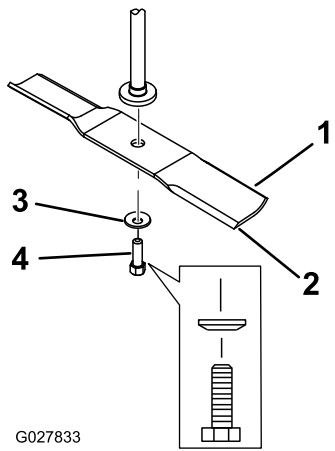

Figure 54
2. Remove the blade bolt, curved washer, and blade from the spindle shaft (Figure 54).
1. Install the blade onto the spindle shaft (Figure 54).
2. Install the curved washer (cupped side toward the blade) and the blade bolt (Figure 54).